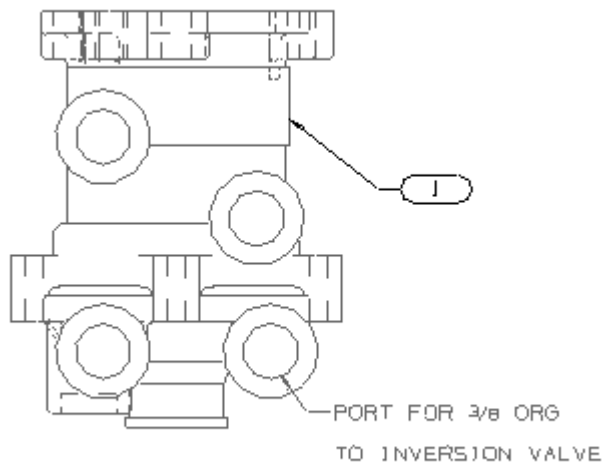

Figure 2: Foot Valve Viewed in the direction of Arrow A in Figure 1
INTRODUCTION: There is a 3/8-inch orange secondary air line that must be inspected to determine if it was installed properly at the vehicle assembly plant. Some foot valves were incorrectly assembled with a plug in the port where the 3/8-inch orange secondary air line should have been installed (see Figure 2). The following procedure is necessary to inspect and repair the suspect air line. Parts that may be needed to complete the installation of the brake line are listed in the "PART INFORMATION" section of this letter.
4. Inspect the foot valve: The 3/8-inch orange air line should be connected to the port shown in Figure 2; however, on some vehicles, you may find a plug in the foot valve port where the 3/8-inch orange line should be connected. Make note and continue to step 5.
7. If the plug is present, remove the plug from the foot valve port where the air line should be connected and connect the air line (see Figure 2).